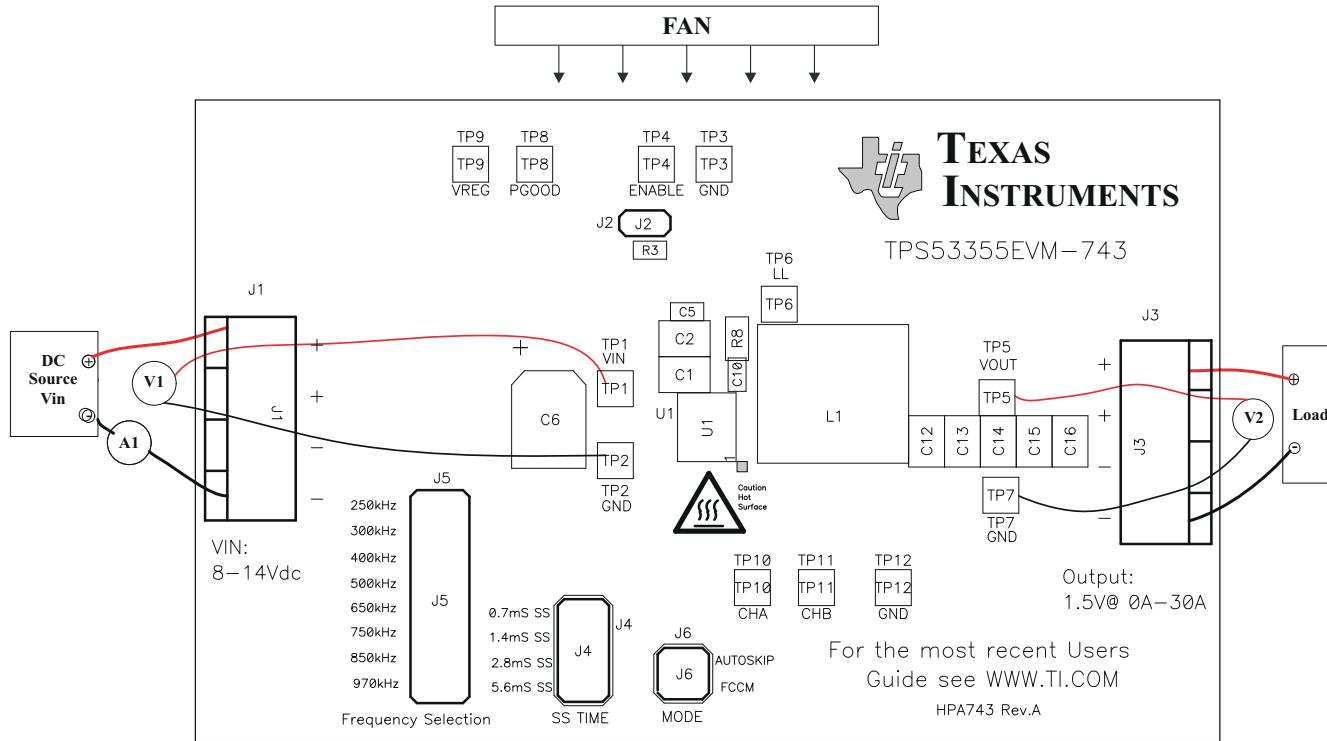

Figure 4-2. TPS53355EVM-743 Recommended Test Setup
Voltage Source: The input voltage source V_{IN} must be a 0-V to 14-V variable DC source capable of supplying 10 A_{DC}. Connect V_{IN} to J1 as shown in Figure 4-2.
Figure 4-2 is the recommended test setup to evaluate the TPS53355EVM-743. Working at an ESD workstation, ensure that any wrist straps, bootstraps, or mats are connected referencing the user to earth ground before power is applied to the EVM.
- Prior to connecting the dc input source V_{IN} , it is advisable to limit the source current from V_{IN} to 10 A maximum. Ensure that V_{IN} is initially set to 0 V and connected as shown in Figure 4-2.
Place a fan as shown in Figure 4-2, and turn it on, making sure that air is flowing across the EVM.
1. Set up the EVM as described in Section 4 and Figure 4-2.